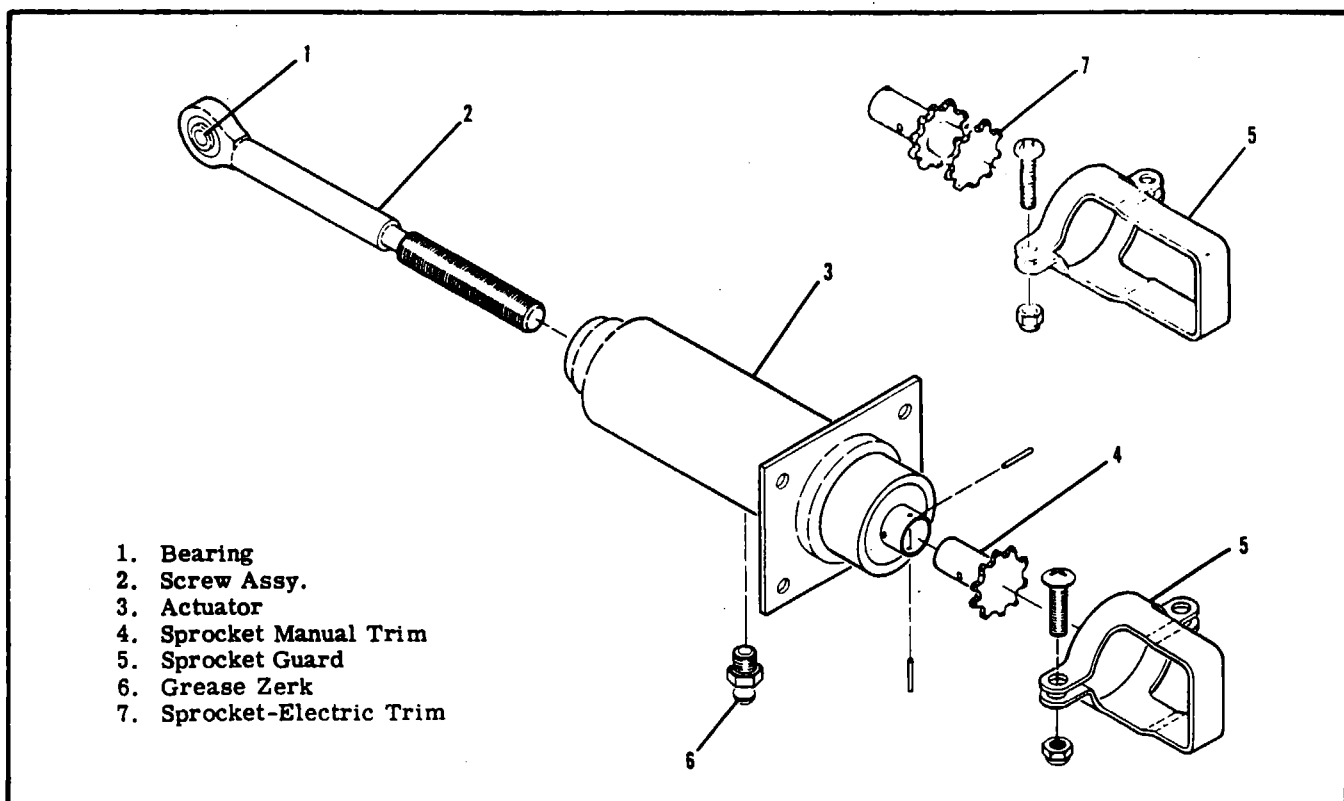

Figure 9-3. Elevator Trim Tab Actuator Assembly
- b. Remove cover (7) below drive assembly (9).
- c. Disconnect wiring at connectors (8).
- d. Remove sprocket guard (index 5, figure 9-3) from trim tab actuator (3).